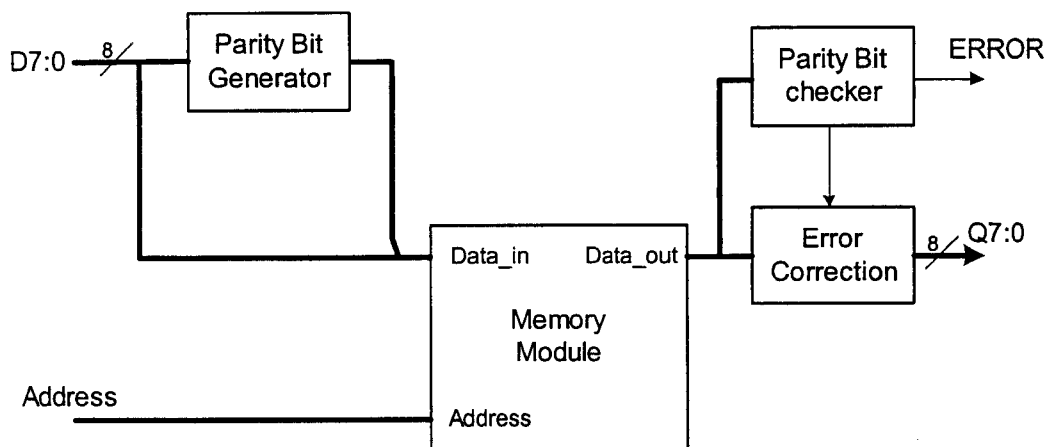

Figure 4.1
c) Figure 4.1 shows an error-correcting memory module that can correct single bit error in the data  $D7:0$ . The signal  $ERROR$  at the output is high when an error is detected and low otherwise.